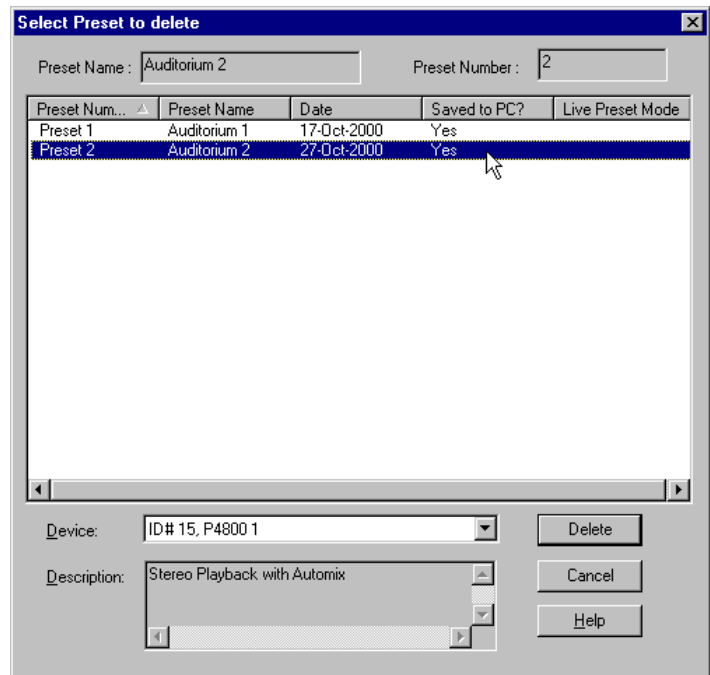

Figure 20 – Delete Preset Dialog
5. The Delete Preset dialog will appear, as pictured on the right in figure 20.